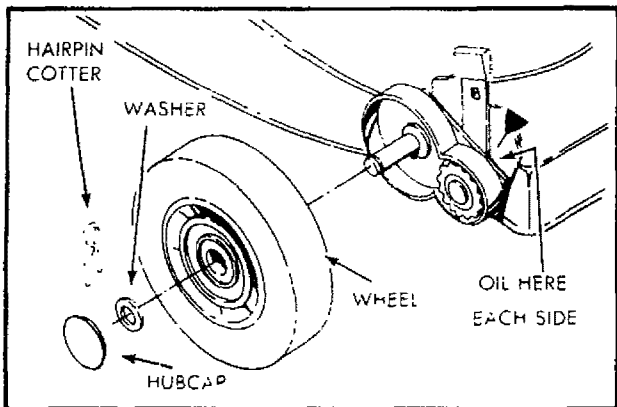

FIG. 27
FRONT WHEEL ADJUSTERS: Put a few drops of the same oil as used in the engine on the front wheel adjusters once or twice each year (See Fig. 27).
2. If necessary to clean the drive wheels (See Fig. 27) check both front wheels